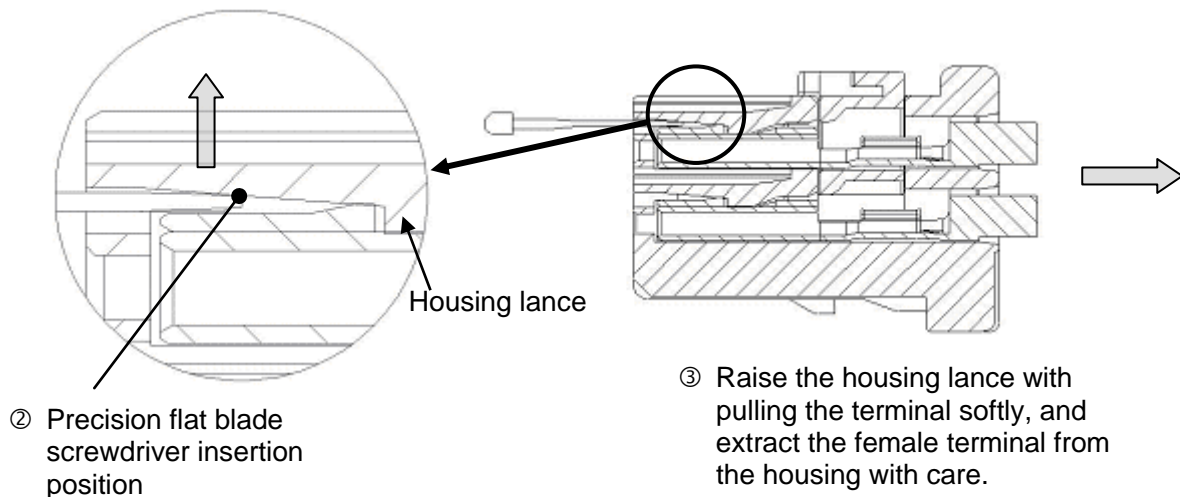

Fig.19
- ② When releasing the engagement of the housing lance, insert a precision flatblade screwdriver (model No.: EJ-CPT2) into the below of the lance as shown in Fig.19.
- ③ Then, release the engagement between the housing lance and the female terminal in the direction of the arrow, and extract the female terminal from the housing with care. (Fig.19)